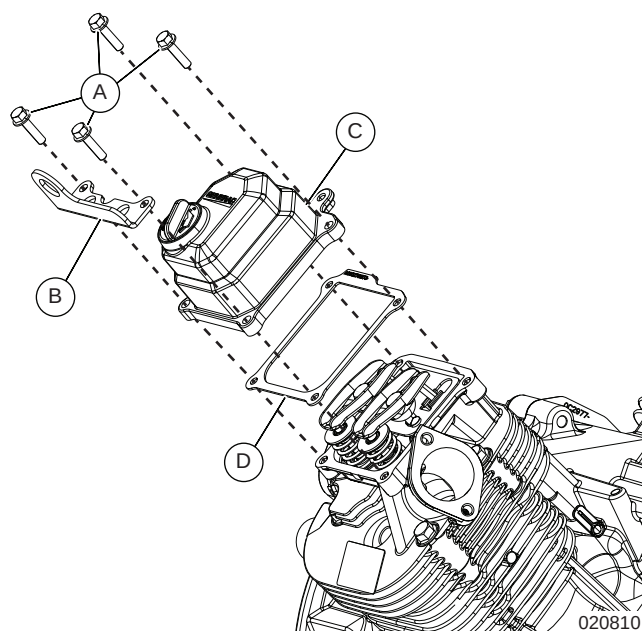

Figure 6-35. Remove Rocker Cover
1. See Figure 6-35. Remove the four fasteners (A), lifting bracket (B), and rocker cover (C) from cylinder head.